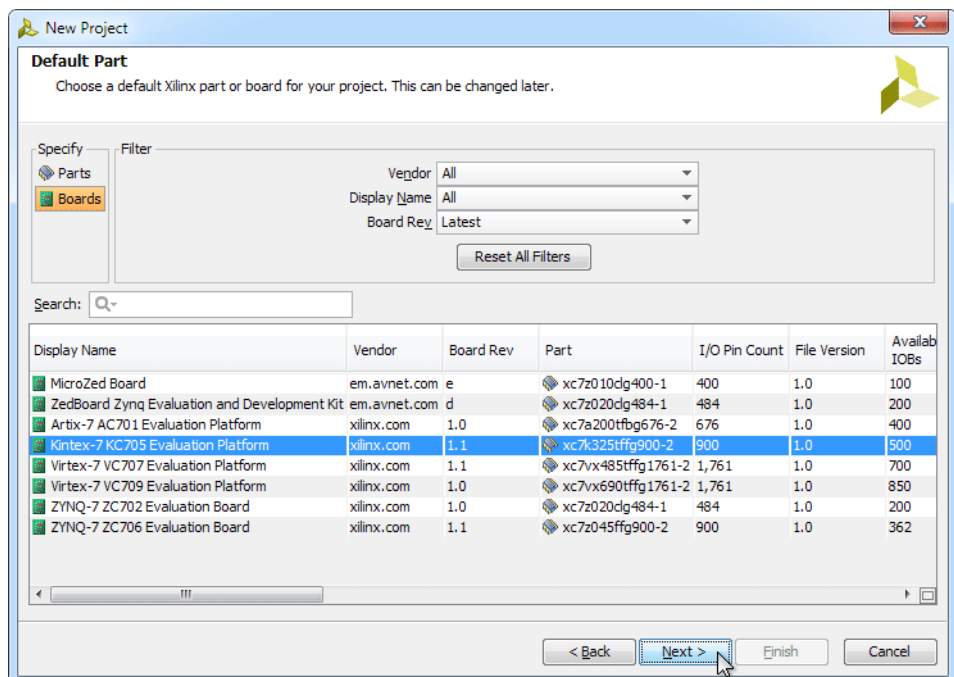

Figure 5: New Project Default Part
- Click **xc7k325tffg900-2** or, select the **Boards** option and then click **Kintex-7 KC705 Evaluation platform** (Figure 5).